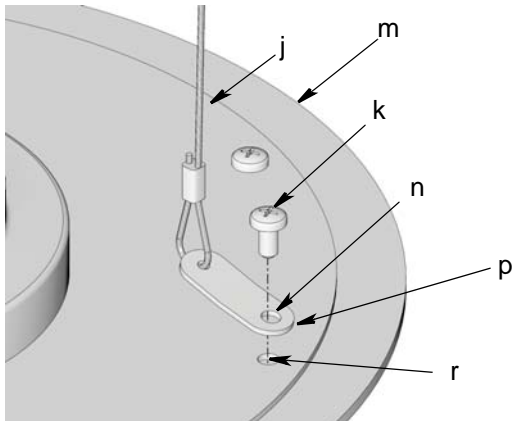

FIG. 7
11. Remove one of the screws (k) from the follower plate (m) (FIG. 7).
12. Install screw (k) through the hole (n) in the cable bracket (p) located at the end of the low level cable (j) and then through the screw hole (r) in the follower plate (m) (FIG. 7). Tighten screw securely.